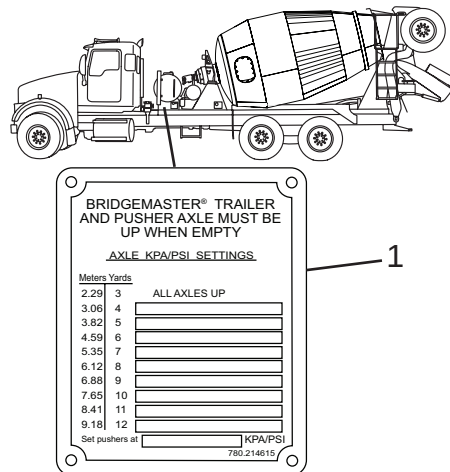

Figure 68
3. Check the amount of concrete loaded in the Mixer, and compare that information with the Bridgmaster axle information placard (Figure 68, Item 1).